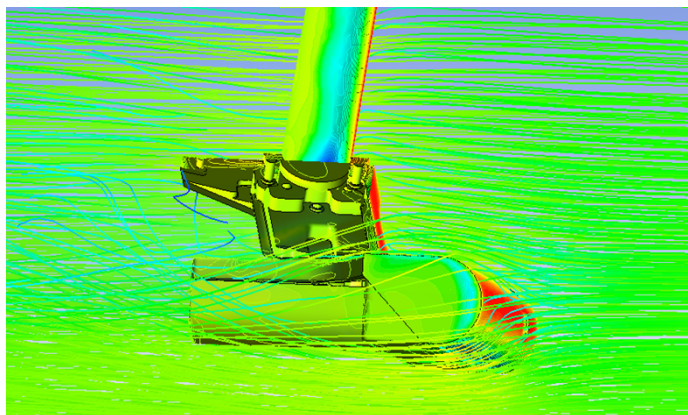
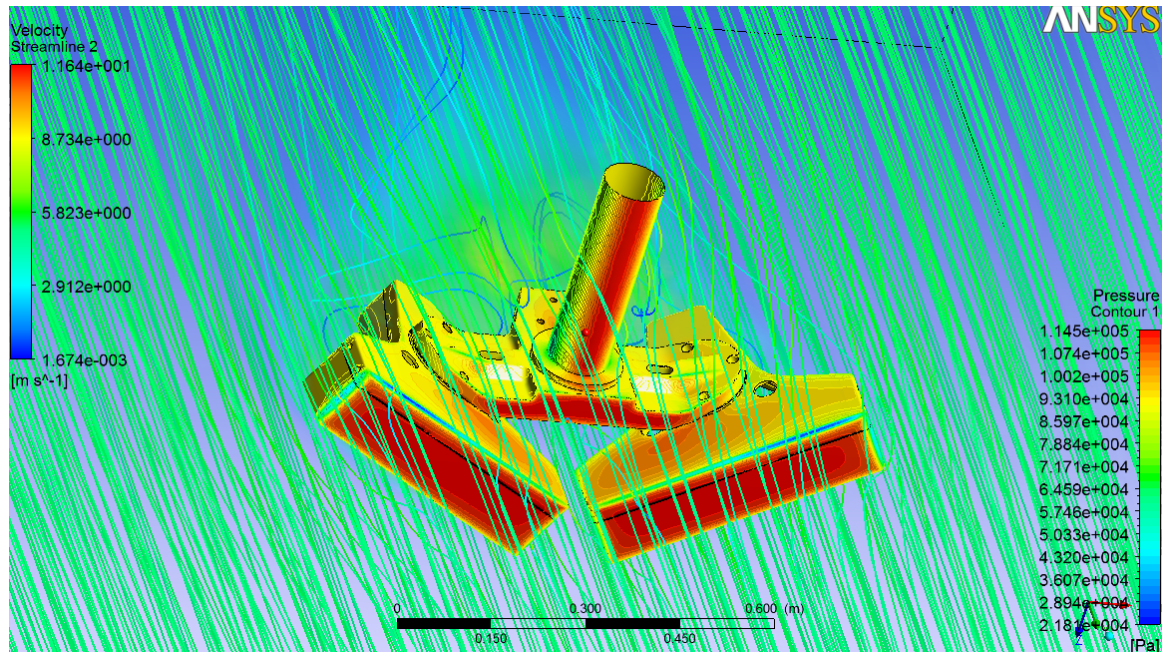
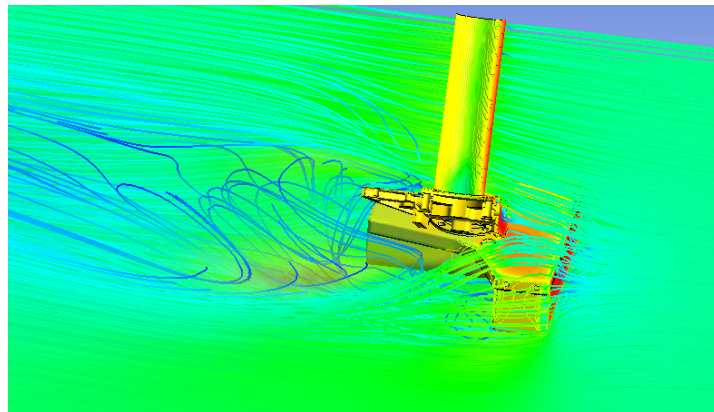

Figure 57: Flow around Dual T50 with Fairings, Cross Section of Symmetry Plane
Figure 58: Flow at 10 knots around Dual T50 without Fairings
Figure 59: Flow around Dual T50 without Fairings, Cross Section of Symmetry Plane
- T50 dual head (shallow) **with** front fairing (*Figure 56* and *Figure 57*) or **without** front fairing (*Figure 58* and *Figure 59*).
Figure 56 illustrates the flow at 10 knots around the T50 dual head with front fairings. The drag on the pole, sonar heads, and bracket is in the region of 1530N. The same situation without front fairings is shown in Figure 58.
Figure 57 is a cross section of the symmetry plane of the T50 dual head. The front fairings and bracket assure a steady water flow around the receivers and projectors. The same situation without front fairings is shown in Figure 59.
Figure 58 illustrates the flow at 10 knots around the T50 dual head without front fairings. The drag on the pole, sonar heads, and bracket is in the region of 2250N. The same situation with front fairings is shown in Figure 56.
Figure 59 is a cross section of the symmetry plane of the T50 dual head. Without the front fairings the flow is still reasonable, but not as steady as with the fairings in front of the receivers. The same situation with front fairings is shown in Figure 57.